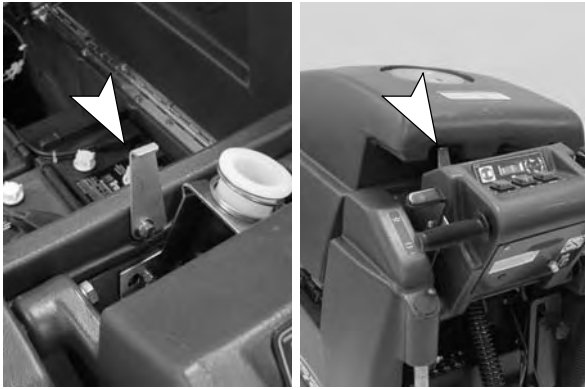

FIG. 26
- Rest the recovery tank on the support stand to promote ventilation during charging (Figure 26).